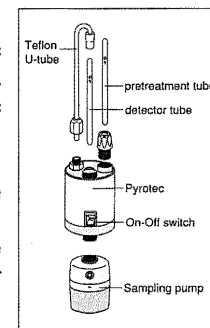

fig. 1
5. Insert the tube securely into Gastec Pyrotec Pyrolyzer with the arrow (G) on the tube pointing toward Gastec Pyrotec Pyrolyzer (fig. 1).